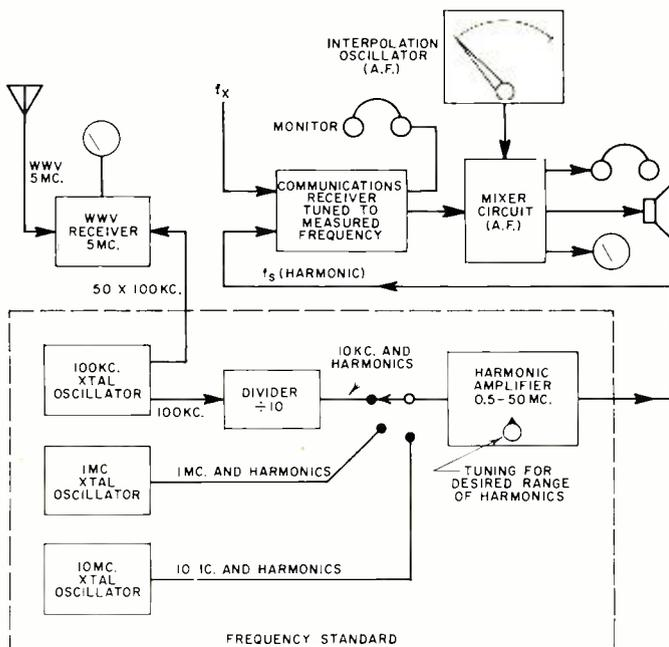

Fig. 1. Complete, accurate frequency-measuring system.
Fig. 1. (A) This circuit demonstrates the basic operation of the Motorola GTCR. (B) Modified circuit uses the charge on two capacitors to simulate the turn-on and turn-off batteries.
A complete frequency-measuring system of this type is illustrated in block diagram form in Fig. 1.
All the components of a complete frequency standard and interpolation setup are included in the block diagram of Fig. 1. With reasonable care and skill on the part of the operator, such equipment will permit measurement to within 5 cps on frequencies between 1 mc. and 5 mc. All of the components required are of the type whose nature and use has been discussed in this article. ▲